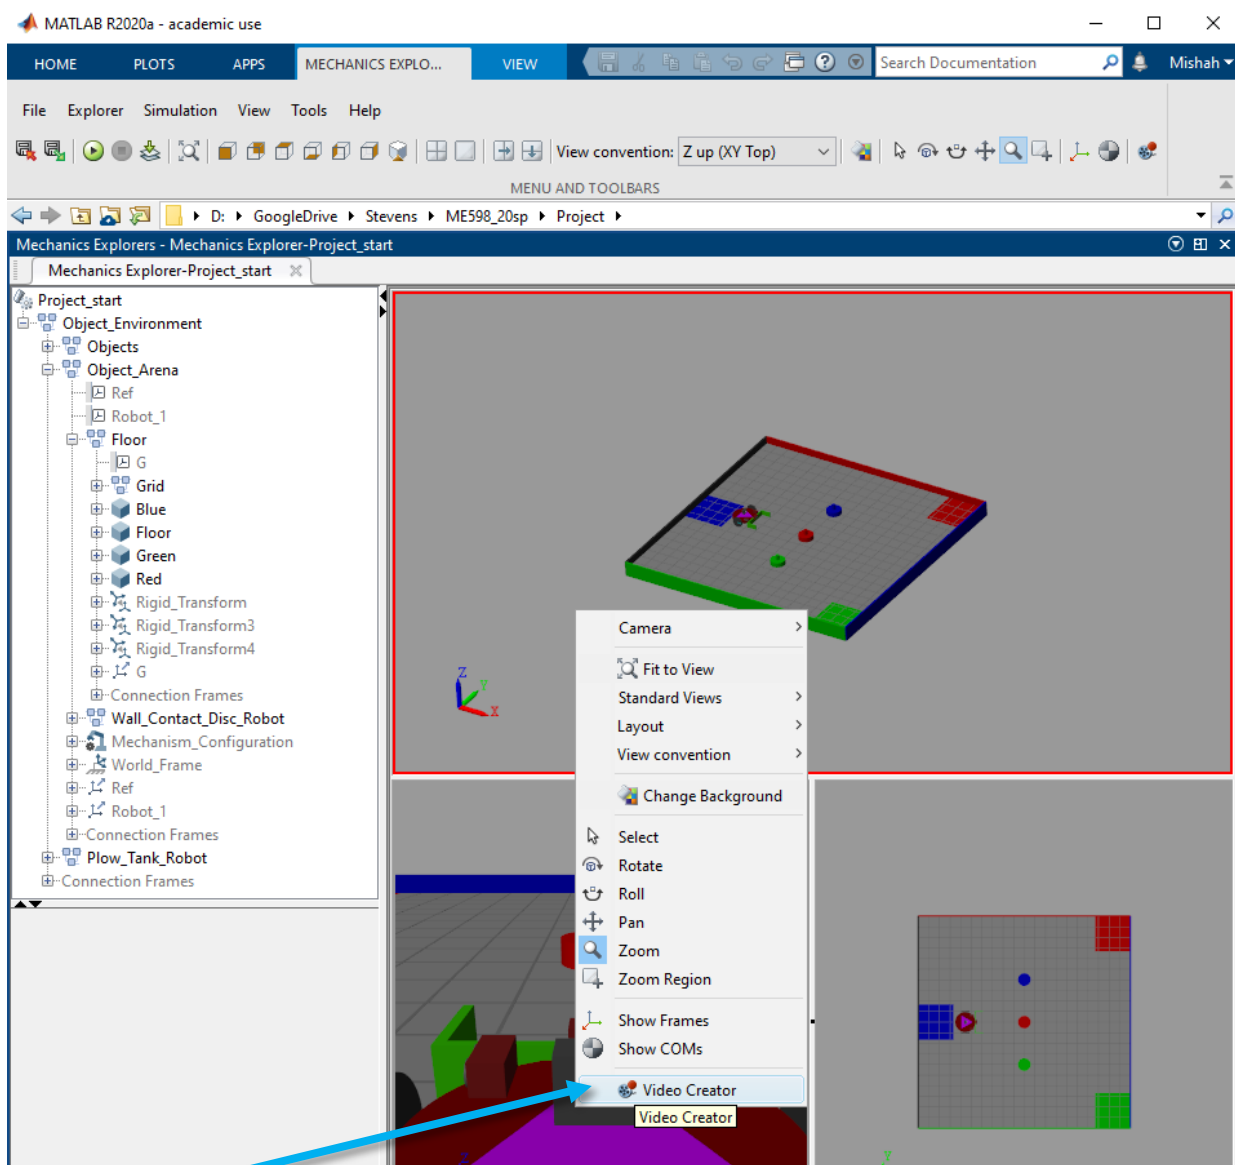

Figure 4 - Selecting the Video Creator option.
2. Starting from a *stopped and already completed* simulation, switch to the MATLAB window and *right-click* within the animation pane you wish to record. The selected pane border will be highlighted. Click on *Video Creator* in the menu that appears as illustrated in Figure 4 - Selecting the Video Creator option..